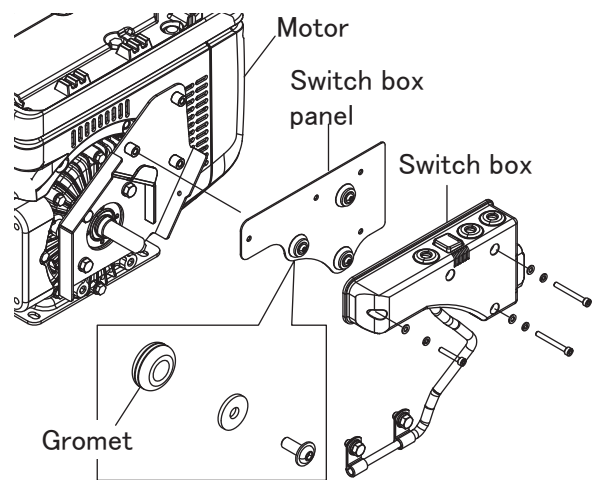

Fig.25
5. Checking the switch box (fig.25)
- Remove the switch box, then replace the grommet installed to switch box panel to new one (fig.25).